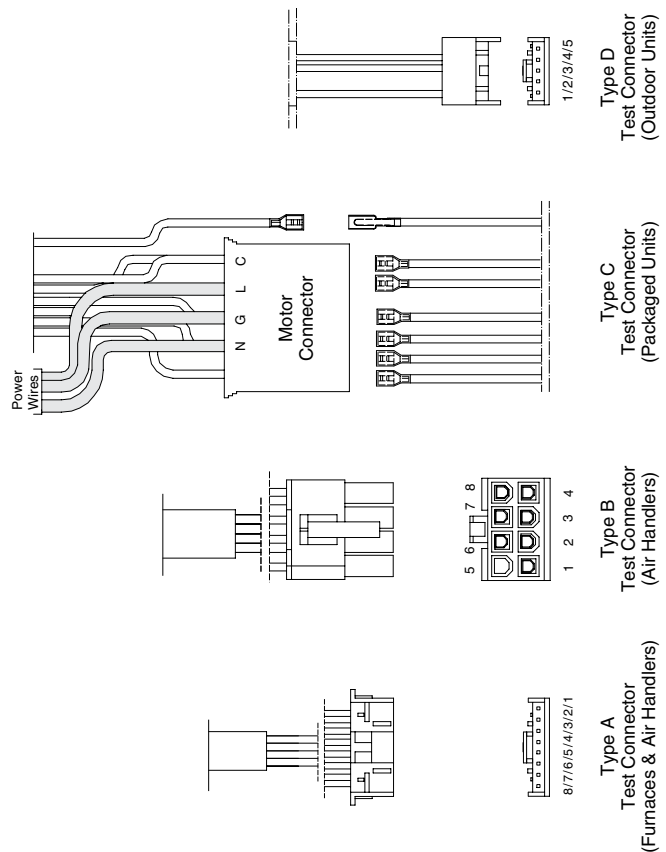

Figure 1. Digimotor Test Connectors
2. The Digimotor Test Tool is equipped with 4 different test connections (see Figure 1). Select the connection that matches the motor to be tested and connect it to the TEST CONNECTOR port on the Digimotor Tool.
**NOTE:** For Type C connector, leave the power wires in place and remove the 24V control wires from the motor plug. Connect the tester to the motor plug by matching the wire colors. Connect the red wire with the male terminal to the female wire bundled with the motor wires. See Figure 1.